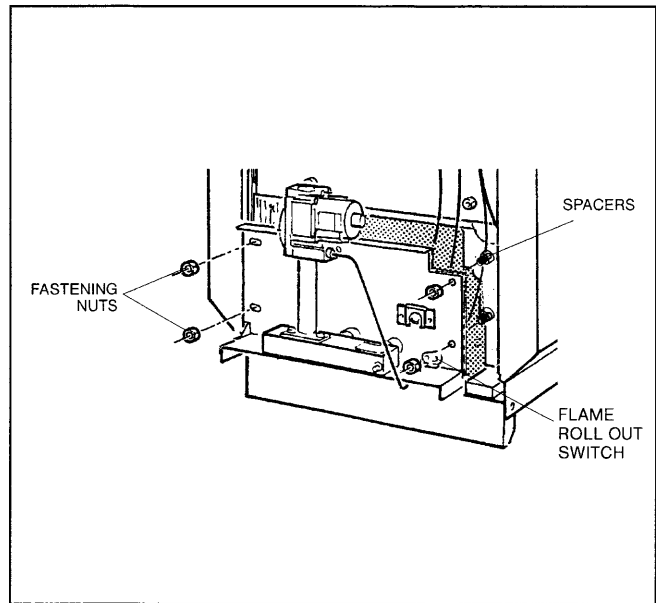

Fig. 17
7. Label the flame roll-out switch wires and disconnect the wires from the flame roll-out switch, fig. 17.
9. Remove the nuts that secure the burner assembly to the boiler and remove the burner assembly from the boiler, fig. 17.
- Ensure spacers shown in fig. 17 are in place when installing burner assembly.